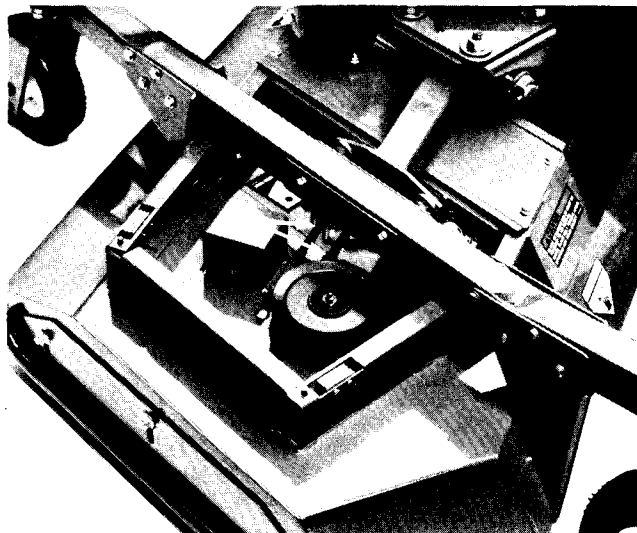

Figure 22
3. Remove flange head screws securing gearbox plate to cutting unit. To separate plate and drive motor assembly from cutting unit, rotate front end of plate toward traction unit (Fig. 22). Tip plate, motor and pulley assembly on its side and remove from cutting unit. Be careful not to bend, twist, kink or damage flexible hydraulic lines.